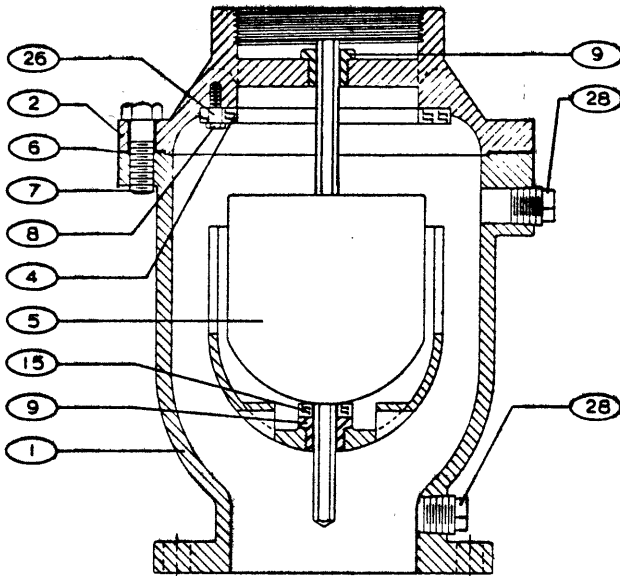
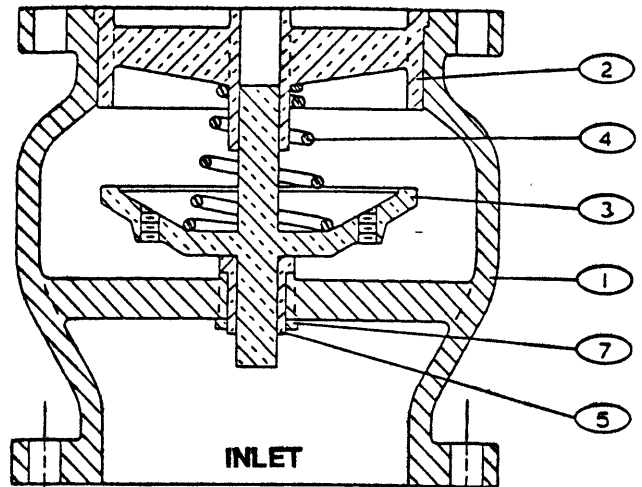

FIGURE 2. 4"-16" WELL SERVICE AIR VALVE
FIGURE 3. ANTI-SLAM DEVICE
The Well Service Air Valve is constructed of rugged cast iron. All internal components are stainless steel with the exception of the valve seat which is resilient. See the specific Material List submitted for the order if other than standard construction. The float (5) is the only moving part assuring long life with minimal maintenance. The general details of construction are illustrated in Figure 2. The body (1) is flanged for connection to the anti-slam device. The seat (4) is retained in the cast cover (2) by fasteners (8).
Anti-Slam Device Construction: The standard body is cast iron with a bronze or stainless steel disc. See specific Materials List submitted for the order if other than standard cast iron construction. The general details of construction are illustrated in Figure 3. The body (1) is flanged for connection to the pipeline. The disc (3) is held open by a spring (4) until water rapidly enters the device. Flow continues through the orifices in the disc to operate the well service valve.
The valve can be disassembled without removing it from the pipeline. Or for convenience, the valve can be removed from the line. All work on the valve should be performed by a skilled mechanic with proper tools. Refer to Figure 2.
1. Close inlet shut-off valve. Open drain valve or remove drain plug (28). Remove discharge piping and cover bolts (7) on the top cover.
2. Pry cover (2) loose and lift off valve body.
3. Remove retainer bolts (8) and inspect seat for cracks in rubber or wear in sealing surface.
4. Lift float (5) from body. Turn guide bushing (9) to remove it from body (1).
5. Unbolt well service valve and remove from top of anti-slam device (Figure 3). Replace gasket if damaged.
7. Lift seat, disc, and spring from body (Figure 3).
8. Bushing (5) can be unthreaded from body if worn.
1. Apply Loctite 242 to anti-slam device bushing (5, Figure 3) and screw into body (1).
2. Place disc, spring, and seat (2) in the body and retain with round head seat fasteners (6).
3. Place gasket over flange. The gasket must cover the seat (2) for proper seat retention.
4. Place Well Service Valve body (Figure 2) on the anti-slam device flange and install flange bolts and nuts per Table 3.
5. Apply Loctite 242 to guide bushing threads (9) and thread bushing into valve body (1).
6. Lay seat (4) over inverted cover (2) with the flat surface against toward the cover. Fasten seat with screws (8) and sleeves (26). Tighten fasteners to 5 ft-lbs. Do not use excessive torque.
7. Install float (5) through body bushing (9).
8. Lay cover gasket (6) over bolt holes in body and secure cover with lubricated bolts (7). Using a cross over tightening method, tighten to the torques listed in Table 3 in three increments